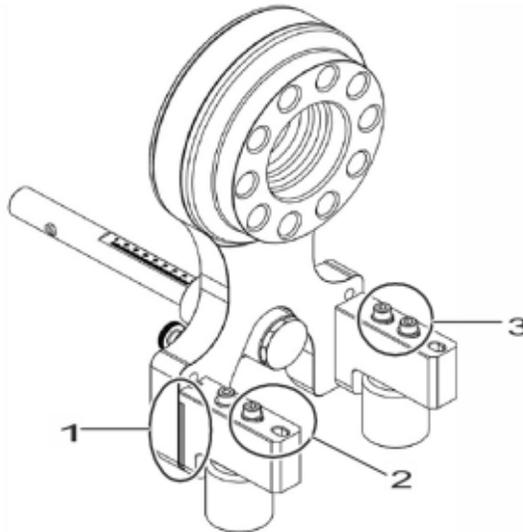

Figure 33
- ⇒ **Figure 33 -1** – Assembly position of the RO adjusting shims
- ⇒ **Figure 33 -2** – RO adjustment range B, rear fastening option
- ⇒ **Figure 33 -3** – RO adjustment range A, front fastening option
- **Achievable rim offsets (RO): 10 mm to 77.5 mm**